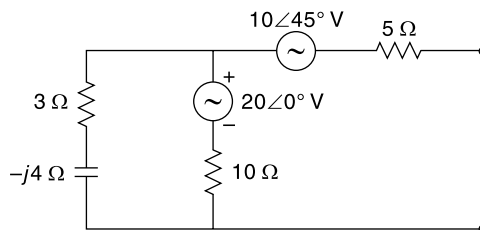

Fig. 6.44
14. Obtain Thevenin's and Norton's equivalent circuits at terminals $(a-b)$ for the network of Fig. 6.44. [Ans: $V_{Th} = 11.5\angle-95.8^\circ$ V, $I_N = 1.39\angle-80.6^\circ$ A, $Z = 8.26\angle-15.2^\circ\ \Omega$]